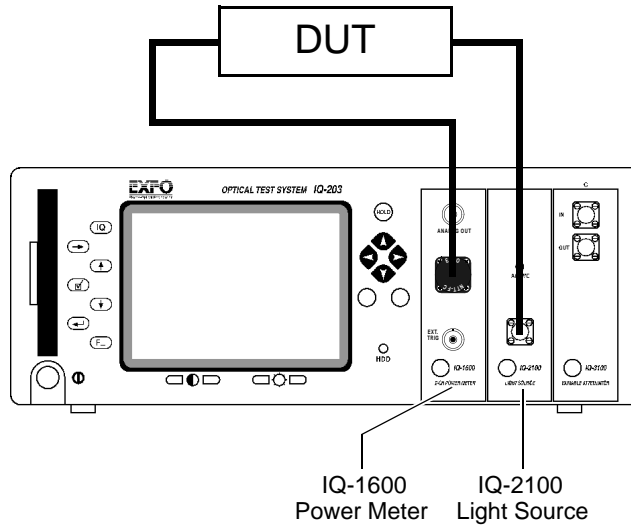

Figure 8-3. Testing Insertion Loss
5. Replace the bulkhead connector with the DUT as shown in Figure 8-3.